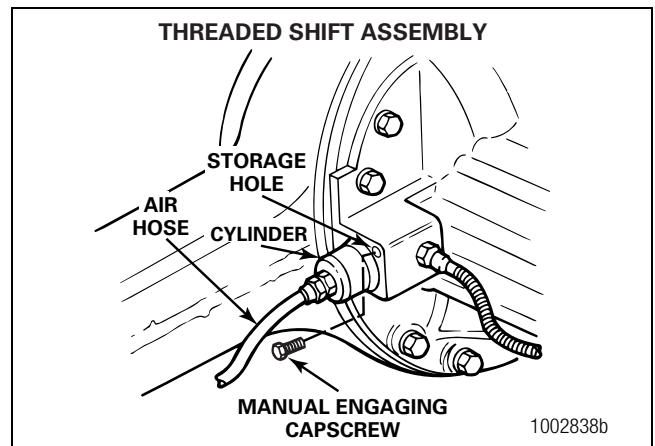

Figure 6.3
2. Remove the manual engaging capscrew from the storage hole in the carrier casting, next to the cylinder. Figure 6.3.